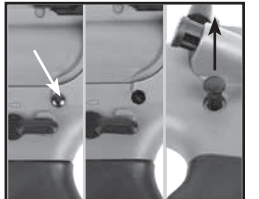

Fig. 12
5. Pull out the charging handle just enough to expose the O-ring in the seal on the bolt and the opening of the blow back housing. Apply one drop of RMCoil to these two spots (Fig. 12).